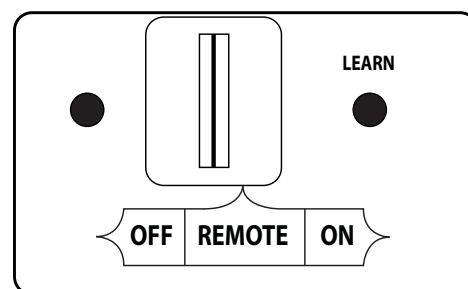

Fig. 27-2 Remote receiver (OFF for Manual Light)
1. Ensure the pilot is burning. Then locate the 3-position switch on the remote receiver (see Fig. 27-2), and slide the switch to the **OFF** position.